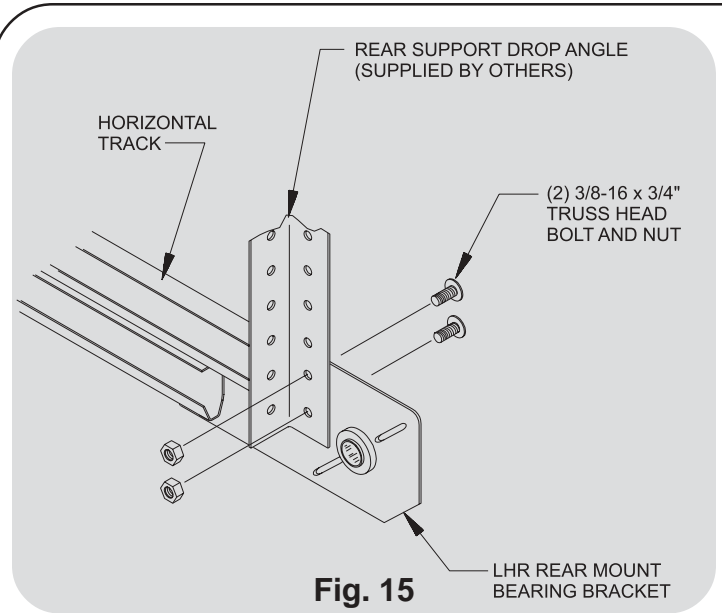

Fig. 15
With assistance, raise the door until 1-1/2 sections are in the horizontal track. Clamp a pair of locking pliers, below the bottom rollers, onto the straight leg of both vertical tracks to prevent the door from falling. Move the horizontal track until it is parallel with the edge of the door, then secure the horizontal track to the rear support drop angle using (2) 3/8-16 x 3/4" truss head bolts and nuts each as shown in **Fig. 15**. With assistance lower the door back into the opening.